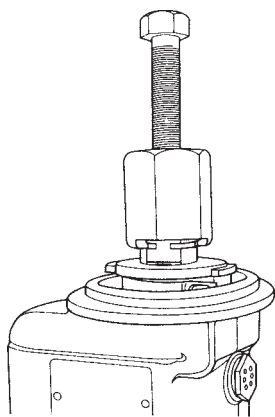

Figure 6.1A
- E. Engage Slick T-106 hub puller into grooves in the hub assembly. Tighten T-106 puller bolt and remove impulse coupling hub assembly. (See Figure 6.1A.)